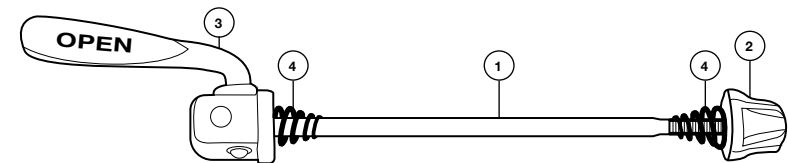

Figure 14. Quick release wheel axle: ① Shaft ② Nut ③ Lever ④ Conical spring
2. Check that the conical springs are on each side of the hub and that the smallest circumference of these is oriented towards the center of the wheel as in *Figure 14*.